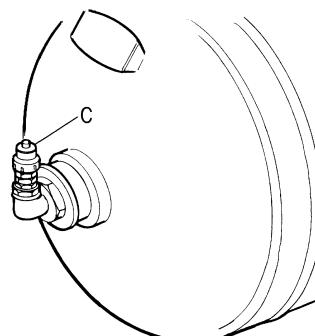

fig. 11
- The electric compressor is provided with a safety valve set a pressure superior to that of the maximum pressure set in the air pressure switch. It is released in case the air pressure switch is damaged and opens an air outlet for exceeding air (fig. 11).
Control the correct functioning of the safety valve every 2000 hours of operation. Switch off the compressor when it has reached a pressure of 6-7 bar and pull the valve ring C with strength, without getting near with the face. Compressed air will be released. If when releasing it, the ring goes back in normal position and stops the air outlet, the valve is perfectly working (fig. 11). If otherwise contact a technician for the replacement.